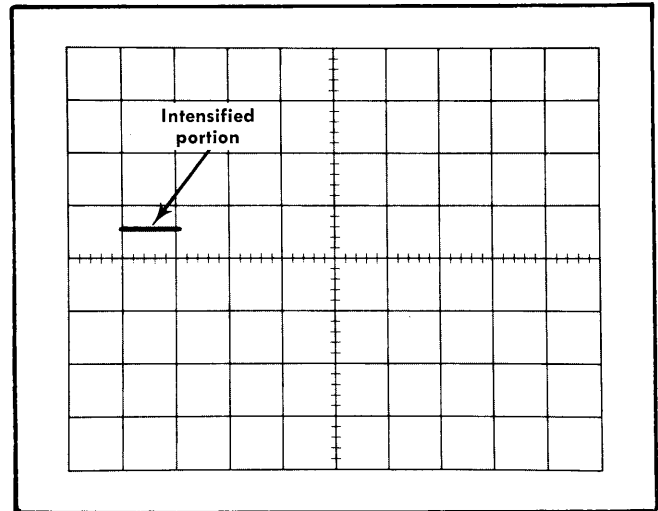

Fig. 5-10. Typical CRT display showing correct intensifier circuit operation.
- CHECK—It should be possible to adjust the INTENSITY control so that only the intensified portion of the delaying (normal) sweep is visible on the CRT screen. See Fig. 5-10.